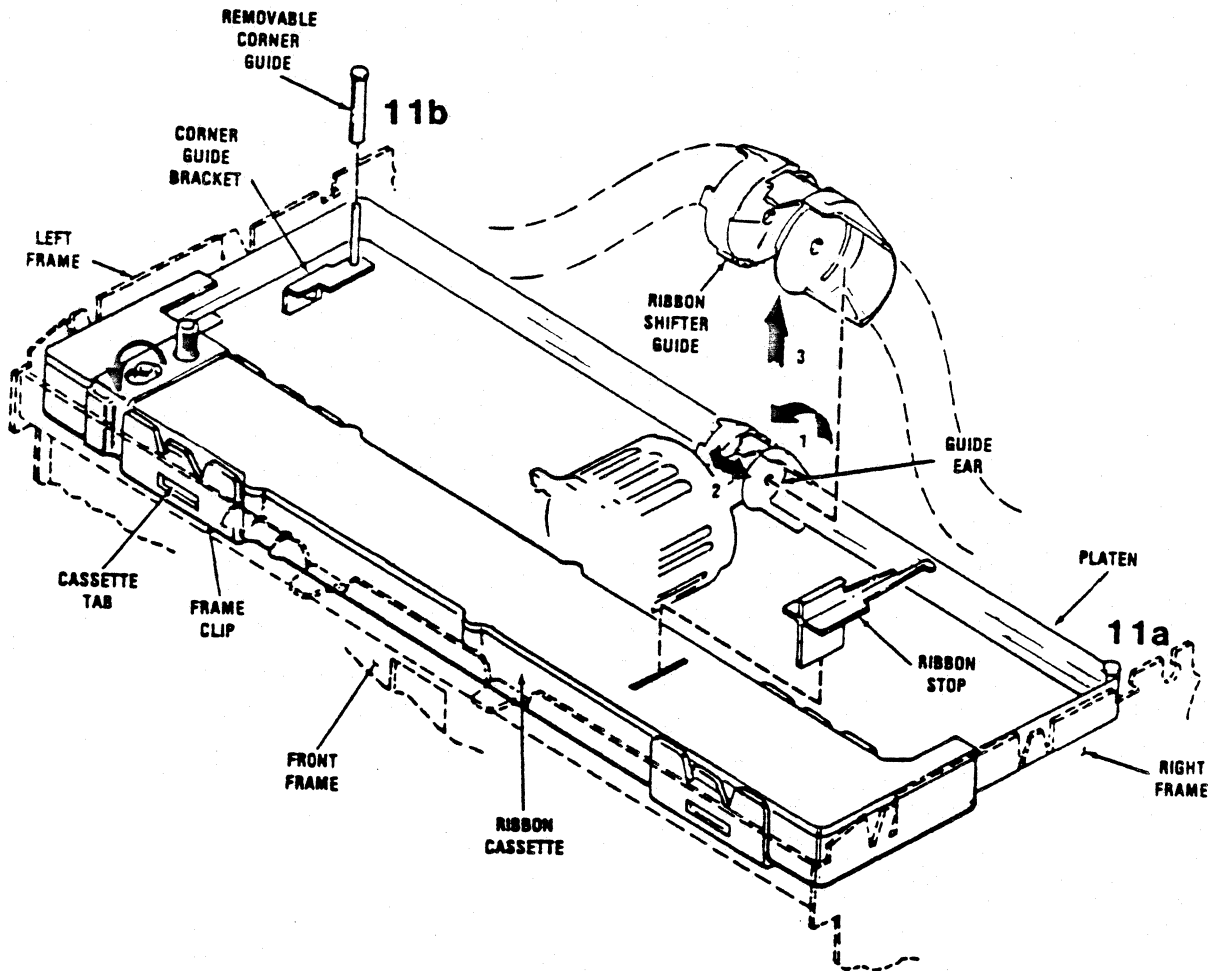

Figure 1-9 Loading the Ribbon Cassette
7. Install the new corner guides. To install, simply push the guides onto the guide posts. (See Figure 1-9 )
12. Turn the knob on the cartridge counterclockwise to take up slack in the ribbon. (See Figure 1-9)